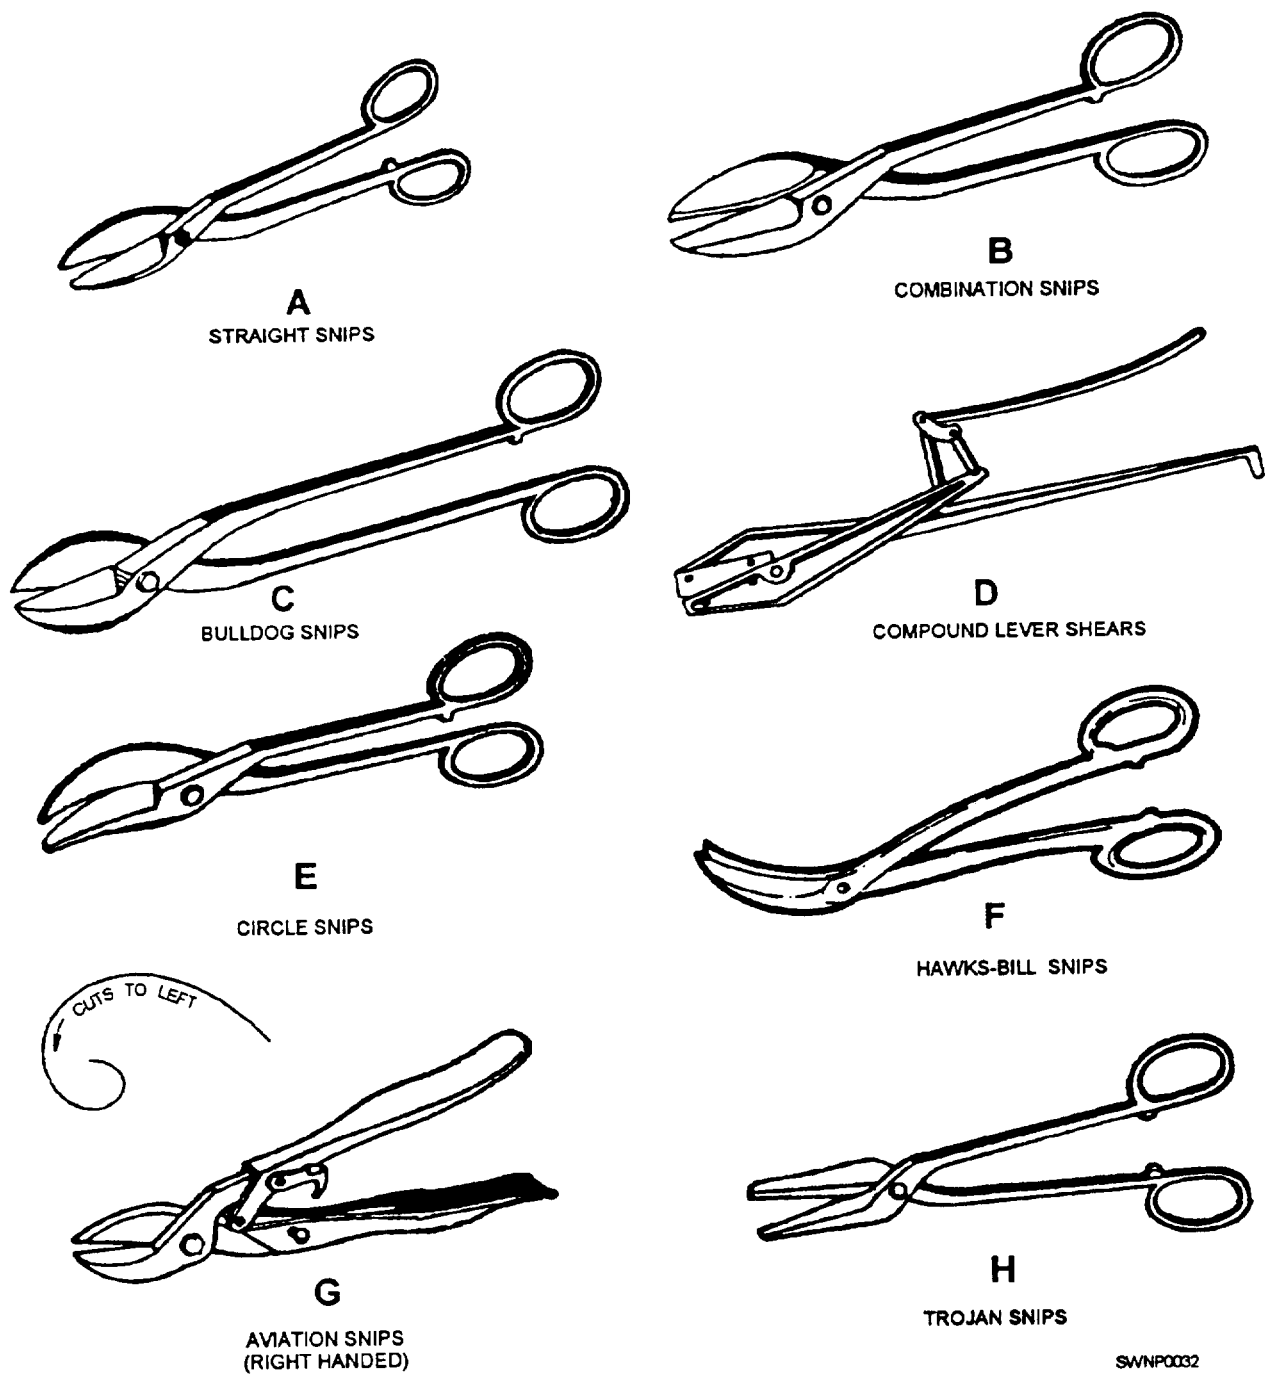

Figure 2-15.—Hand snips.
Hand snips are divided into two groups. Those for straight cuts are as follows: straight snips, combination snips, bulldog snips, and compound lever shears. Those for circular cuts are as follows: circle, hawk's bill, aviation, and Trojan snips. These snips are shown in figure 2-15. The following is a brief description of each type of snip.
**STRAIGHT SNIPS** (fig. 2-15, view A) have straight jaws for straight line cutting. To ensure strength, they are not pointed. These snips are made in various sizes and the jaws may vary from 2 to 4 1/2 inches. The overall length will also vary from 7 to 15 3/4 inches. The different size snips are made to cut different thicknesses of metal with 18 gauge steel as a minimum for the larger snips. These snips are available for right- or left-hand use.
**COMBINATION SNIPS** (fig. 2-15, view B) have straight jaws for straight cutting but the inner faces of the jaws are sloped for cutting curves as well as irregular shapes. These snips are available in the same sizes and capacities as straight snips.
**BULLDOG SNIPS** (fig. 2-15, view C) are of the combination type. They have short cutting blades with long handles for leverage. The blades are inlaid with special alloy steel for cutting stainless steel. Bulldog snips can cut 16 gauge mild steel. The blades are 2 1/2 inches long and the overall length of the snip varies from 14 to 17 inches.
**COMPOUND LEVER SHEARS** (fig. 2-15, view D) have levers designed that give additional leverage to ease the cutting of heavy material. The lower blade is bent to allow the shears to be inserted in a hole in the bench or bench plate. This will hold the shear in an upright position and make the cutting easier. The cutting blades are removable and can be replaced. The capacity is 12 gauge mild steel. It has cutting blades
**CIRCLE SNIPS** (fig. 2-15, view E) have curved blades and are used for making circular cuts, as the name implies. They come in the same sizes and capacities as straight snips and either right- or left-hand types are available.
**HAWK'S BILL SNIPS** (fig. 2-15, view F) are used to cut a small radius inside and outside a circle. The narrow, curved blades are beveled to allow sharp turns without buckling the sheet metal. These snips are useful for cutting holes in pipe, in furnace hoods, and in close quarters work. These snips are available with a 2 1/2-inch cutting edge and have an overall length of either 11 1/2 or 13 inches and have a 20 gauge mild steel capacity.
**AVIATION SNIPS** (fig. 2-15, view G) have compound levers, enabling them to cut with less effort. These snips have hardened blades that enable them to cut hard material. They are also useful for cutting circles, for cutting squares, and for cutting compound curves and intricate designs in sheet metal. Aviation snips come in three types: right hand, left hand, and straight. On right-hand snips, the blade is on the left and they cut to the left. Left-hand snips are the opposite. They are usually color-coded in keeping with industry standards—green cuts right, red cuts left, yellow cuts straight. Both snips can be used with the right hand. The snips are 10 inches long and have a 2-inch cut and have a 16 gauge mild steel capacity.
**TROJAN SNIPS** (fig. 2-15, view H) are slim-bladed snips that are used for straight or curved cutting. The blades are small enough to allow sharp turning cuts without buckling the metal. These snips can be used to cut outside curves and can also be used in place of circle snips, hawk's bill snips, or aviation snips when cutting inside curves. The blades are forged high grade steel. These snips come in two sizes: one has a 2 1/2-inch cutting length and a 12-inch overall length and the other has a 3-inch cutting length and a 13-inch overall length. They both have a 20 gauge capacity.